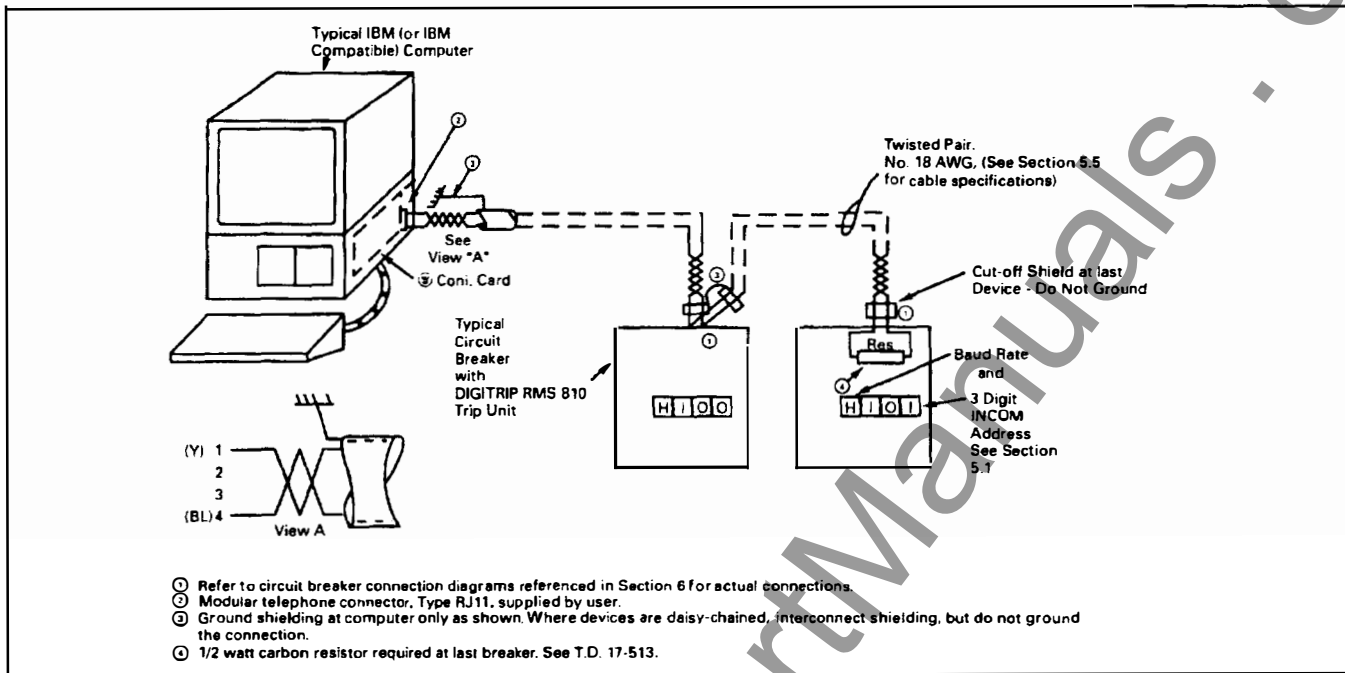

Fig. 11.1 INCOM with Remote Master Computer
- 5) The letter "H" refers to the High 9600 Baud rate; and the letter "L" refers to the Low 1200 Baud Rate. An "X" in the Baud Rate field indicates that neither "H"igh nor "L"ow Baud Rate has been selected. Press and release the (Black) "TEST" push button to change the baud rate. (You do need to continue-to-hold-in the "TRIP RESET" push button.) Suggestion: Before you press and release the (Black) "TEST" push button, set the "TEST AMPS" switch to "1", to minimize the effect of an "unintended test", which can occur, if your other finger would happen to come off the "TRIP RESET" push button. For correct communications, be sure to use the terminating resistor at the end of the twisted pair (last element in the INCOM® chain). (See Figures 11.1, 11.2, and 11.3, and refer to the IMPACC® Wiring Specification listed in Section 6.)
To communicate with a remote master (IBM® compatible) personal computer, install a Cutler-Hammer Inc. Computer Operated Network Interface (CONI) card into the computer frame (chassis). The connections in the network are then made by twisted pairs of wires as shown in Fig. 11.1.